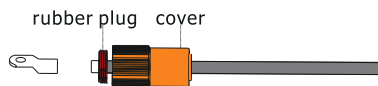

Figure 4.2-2
Step1: The wire passes through the rubber plug and outer cover, as shown in Figure 4.2-2.